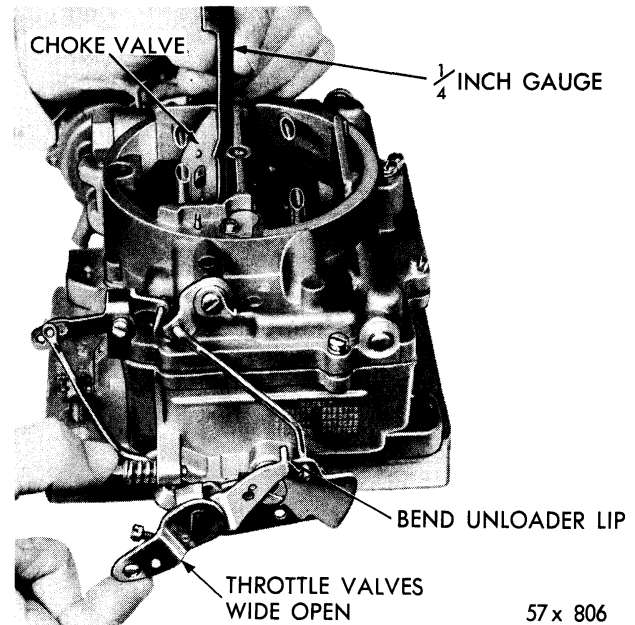

Figure 103—Checking Choke Unloader Adjustment
**Choke Unloader Adjustment**—With the throttle valves in the wide open position, it should be possible to insert gauge Tool T109-31 ( $\frac{1}{4}$  inch) between the upper edge of the choke valve and the inner wall of the air horn, as shown in Figure 103.